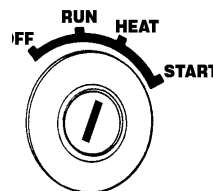

Figure 11. Key switch set to 'HEAT'
4. Turn the key to the 'HEAT' position. When the preheat light is off, turn the key to the 'START' position to start the engine (Figure 11). As soon as the engine starts, release the key. The key will automatically return to the 'ON' position.